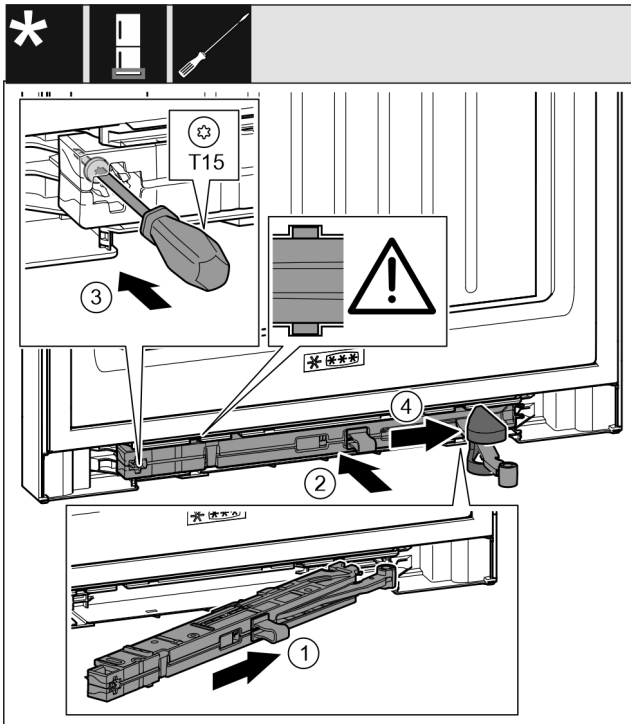

Fig. 52
- ▶ Slide the closing damper unit Fig. 52 (1) on the swap bearing block side up to the stop diagonally into the recess.
- ▶ Push the closing damper unit Fig. 52 (2) completely into the recess.
- ▶ Tighten the screw Fig. 52 (3) with a screwdriver.
- ▶ Push the cover Fig. 52 (4) over the joint.